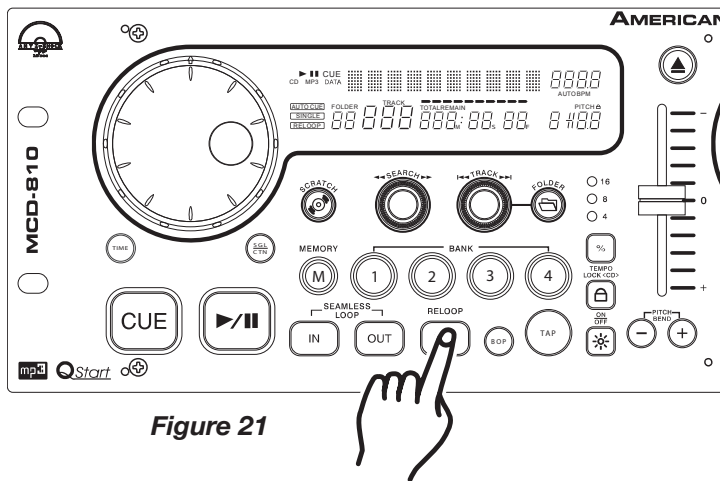

Figure 21
Please Note: Only the end point of the loop may be edited. You may make your loop shorter or longer. Before you can edit your seamless loop you obviously must first have created a seamless loop to edit. If you haven't created a SEAMLESS LOOP, follow the instructions in step 9 to create a loop. If a SEAMLESS LOOP has already been created, press the **RELOOP BUTTON (19)** to activate your SEAMLESS LOOP (Figure 21) if it is not already activated. If the loop is located in one of the **BANK BUTTONS (7)** press the desired **BANK BUTTON** to activate your loop. To edit your seamless loop's ending point:
REPLAY LOOP - The **RELOOP (19)** function allows you to return to your stored loop at any time. The **IN BUTTON (21)** and **OUT BUTTON (20)** L.E.D.s will indicate a loop is stored in memory, and may be played at any time. To replay the loop, press the **RELOOP BUTTON (19)**. The **IN BUTTON (21)** and **OUT BUTTON (20)** L.E.D.s will again begin to flash indicating SEAMLESS LOOP mode has been activated (Figure 21) and your stored loop will immediately begin to play.